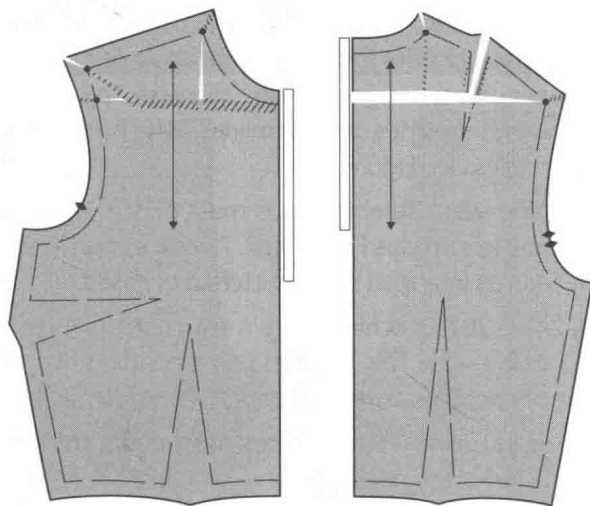

FIGURE 7.17 The patterns have been successfully altered, maintaining
3. The straight-of-grain line or arrow must be positioned the same as before the alteration so the garment hangs or drapes properly (see Figure 7.17).
4. Center front and center back fold lines and seamlines on the basic garment must remain straight—on grain—so the garment hangs or drapes as intended (see Figures 7.17 and 7.18).